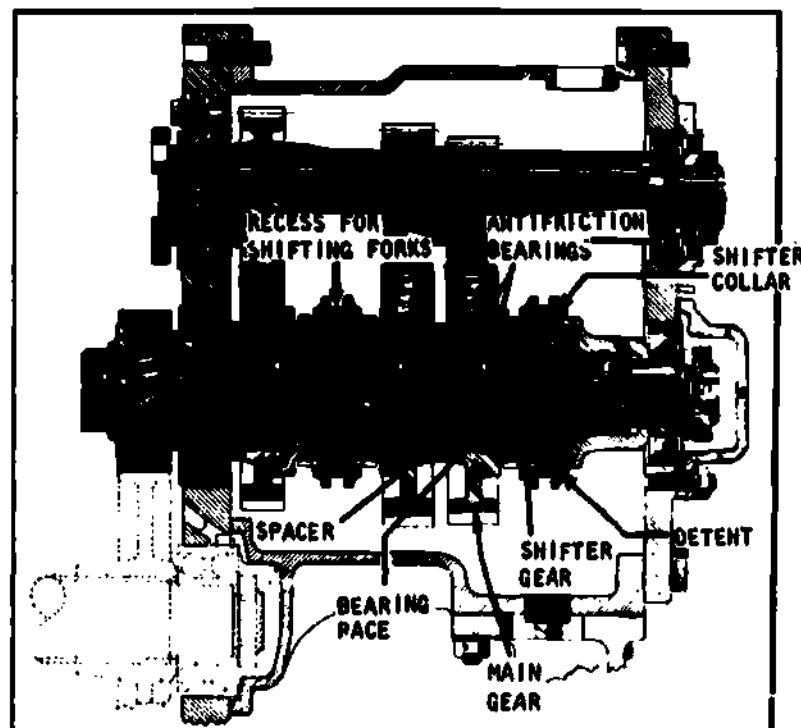

Fig 3-14. Cutaway view of a constant-mesh transmission.
- (1) **Diagnosis.** Some of the problems reported as transmission troubles are actually caused by some other part or component. A well-trained and experienced mechanic is an asset to the maintenance facility, especially for diagnosing transmission troubles. He knows that noises can be transmitted to a transmission from unbalanced drive shafts, worn universal joints, loose drive shaft center bearings, worn or pitted ring and pinion gears, and clutch or engines. But not all units have experienced mechanics, and therefore they must diagnose the problem and repair the component with personnel available. When checking for transmission noise, raise the vehicle off the deck and operate it in all speed ranges, including coasting (neutral). Determine the origin of the noise before condemning the transmission. If the noise does originate in the transmission, try to determine what is causing it. A growl or hum, when the gears are in the neutral position with the engine running, that stops when the clutch is disengaged, indicates insufficient lubricant, worn or broken pinion gear, worn reverse idler or countershaft bearings, worn pilot or pinion shaft bearings, or a bent countershaft. Noises heard in neutral may also appear when the transmission is operated in other gears. If a noise appears only after the transmission is operated in gear, the cause is worn or damaged main shaft bearings, worn or broken sliding gears, or excessive main shaft end play. Noises are not the only problems with a transmission. It will slip out of gear, be hard to shift, or develop leaks. Slipping out of gear is caused by worn detents, gears, bearings, and/or improperly adjusted linkage, including the forks. Excessive end play of the reverse idler and countershaft will allow the gears to work endways and cause them to slip out of mesh. Hard shifting is caused by the clutch not releasing, distorted or burred main shaft splines, or improperly adjusted linkage. Oil will leak by worn seals, damaged or loose gaskets, loose bolts or plugs. A clogged vent will also cause pressure to force the oil out.
- (2) **Repair.** Because of variations in construction of transmissions, different procedures must be followed in removal, disassembly, repair, assembly, and adjustment. Special tools will be required for disassembly and assembly of some transmissions. If any transmission unit is unfamiliar to you, follow the procedures outlined in the TM. Clean the transmission and attached parts thoroughly before removing it from the vehicle. Drain the lubricant, remove the assembly from the vehicle, and then disassemble; some transmissions are disassembled without removal as a component. Clean the parts and case thoroughly with an approved solvent and use a putty knife or similar scraper to remove hardened grease, lacquer deposits, dirt, and old gaskets. Pay particular attention to the small drilled passages and lube troughs; make sure nothing restricts the flow of lubricants. The gears are lubricated by oil which clings to them after being splashed. The bearings are lubricated by oil which is splashed into the troughs; the oil then flows through the drilled passages. Inspect and check all parts for wear or damage. Some defects are visible, others will require the use of special tools and gages to determine their condition. Replace or repair the unserviceable parts. Where there is doubt about the serviceability of a part, it should be replaced. Some parts may require replacement in pairs, such as the replacement of the low-speed sliding gear and the low-speed countershaft gear, if one is defective. Small cracks in the gearcase or covers can sometimes be welded if they do not extend into the bearing bores. Assembly is usually the reverse order of disassembly, but use the TM as a guide. The TM is also used to check the adjustment procedures and specifications.
b. **Constant mesh (fig 3-14).** The constant-mesh transmission, its problems, and repair procedures are very similar to those for the sliding-spur-gear transmission. However, its internal parts function somewhat differently. The main shaft gears in the constant-mesh transmission do not slide in or out of mesh with the countershaft gears except for reverse. The main gears are helical cut and are free to rotate on the main shaft. Reverse gear is a straight spur gear. The main gears are locked to the main shaft by shifter gear collars controlled by a shifting fork and linkage. All of the gears are turning, and by moving the small shifter gear collar, one of the gears is locked to the shaft and transmits the power. Notice in figure 3-14 that detents hold the shifter gear collar in mesh with the main gear. The main gears may be pressed on the main shaft or retained in position by snap rings. They are mounted on antifriction bearings so they can rotate. Removal, disassembly, assembly, and adjustment procedures vary and the mechanic should follow the procedures outlined in the TM.